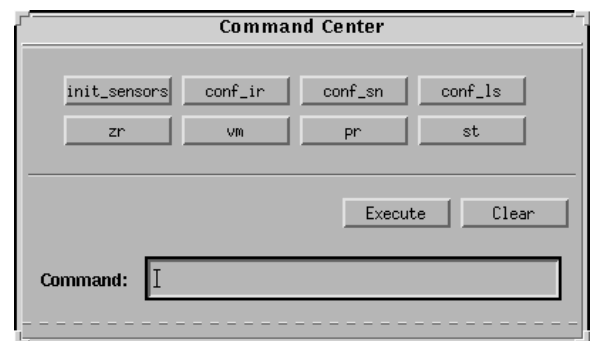

Figure 3.3 The Command Line Panel
- Select the PANELS item in the robot window, and choose COMMAND LINE. The window of Figure 3.3 will appear.